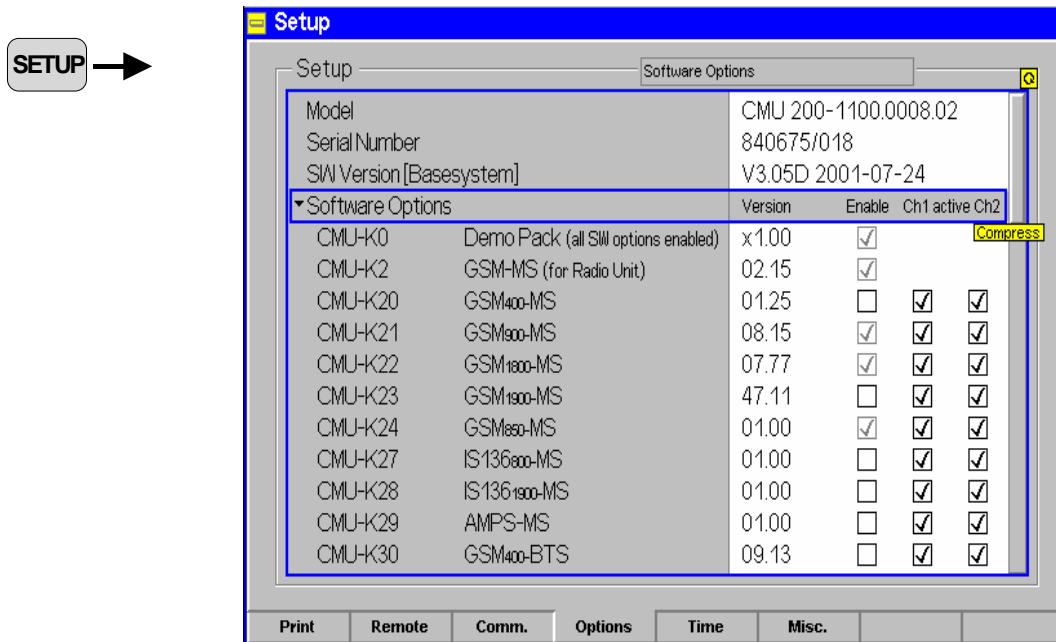

Fig. 4-9 Options menu
- Select the respective line in the list of software options (in the example of Fig. 4-9 the line *CMU-K20 GSM400-MS*).